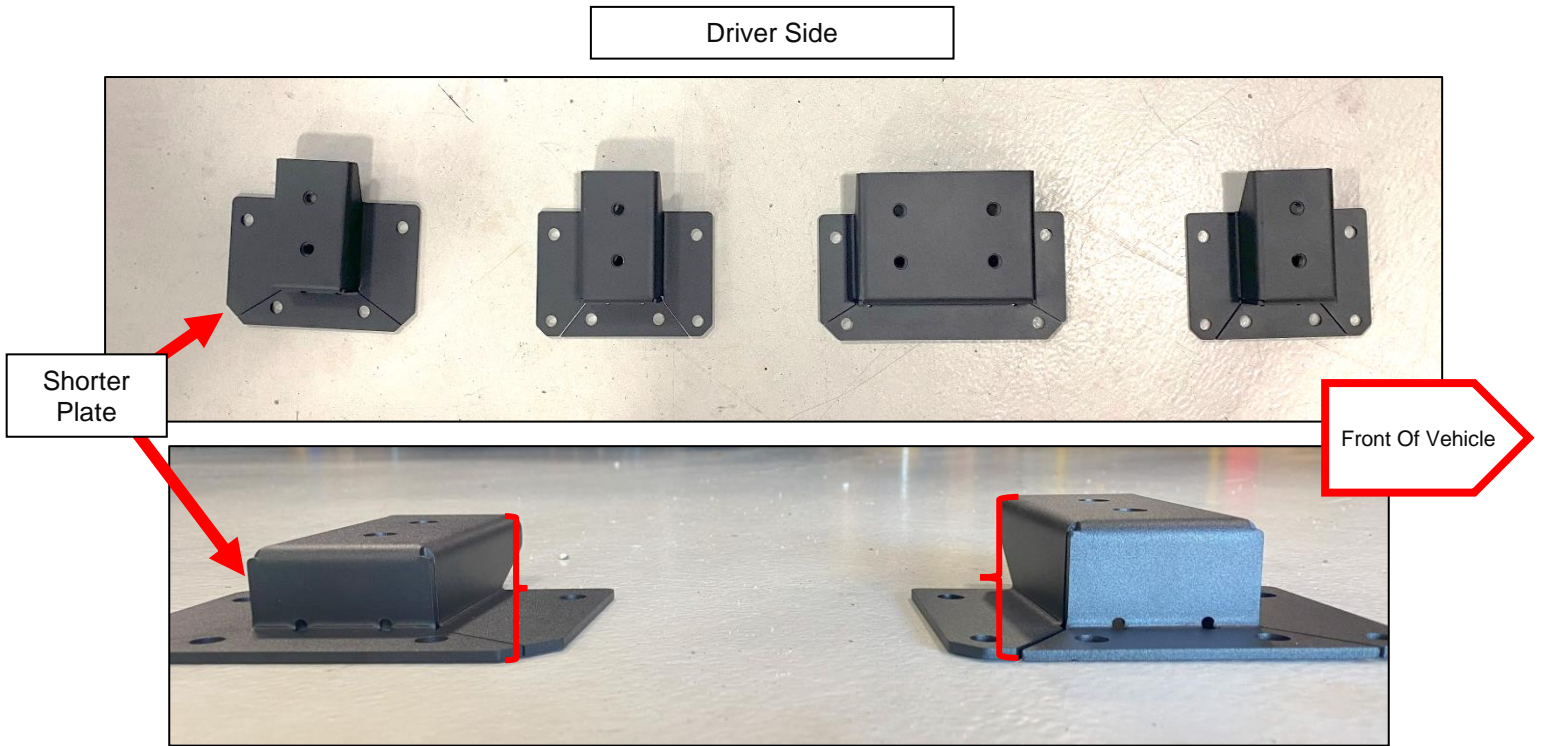

Figure 1
3. Starting on the Driver Side of the vehicle, locate the (4) four Mounting Plates and order them as shown below. The shorter Plate with (4) four holes will be towards the rear of the vehicle. *Figure 1.*